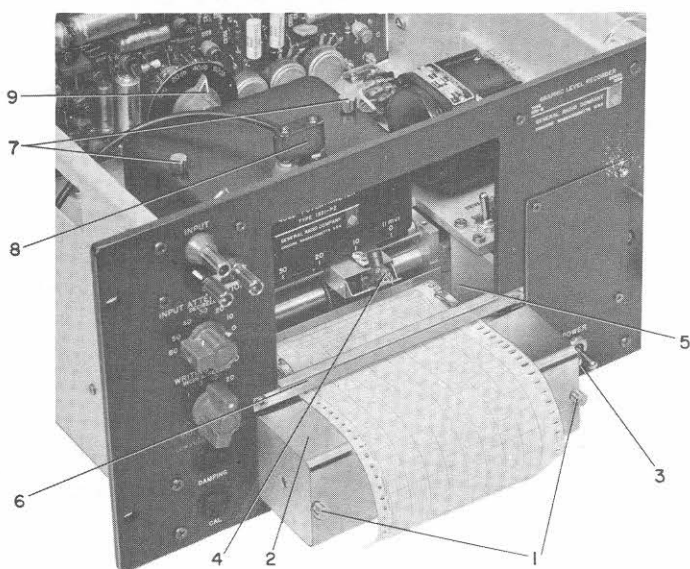
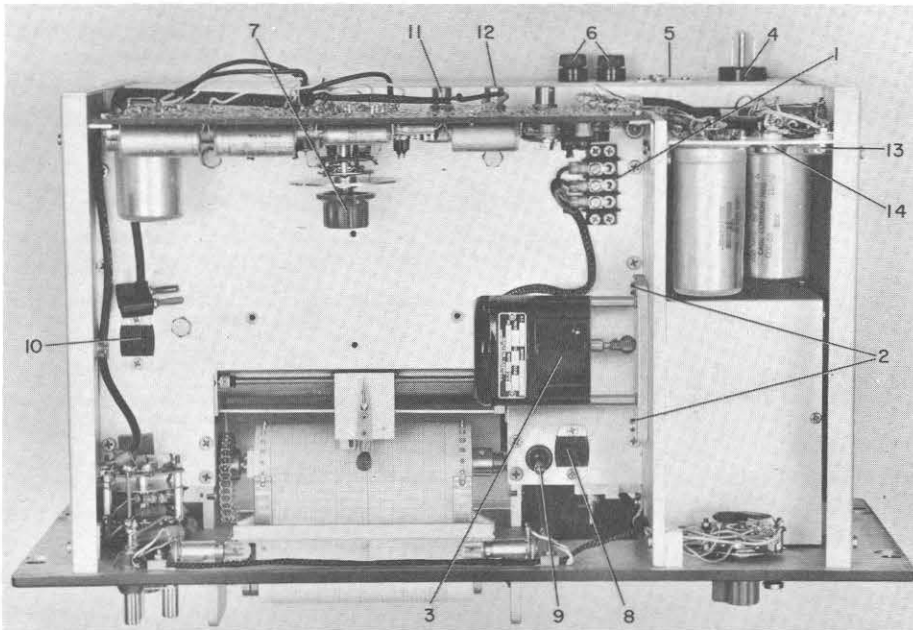

Figure 2.1. Front oblique view of recorder.
Figure 2.2. Top view of recorder
2.1.2 PAPER LOADING. (Refer to Figure 2.1). To load the recorder with paper, proceed as follows:
a. Remove the two thumb screws (1, Figure 2.1), and remove the paper cover (2).
b. Pull out the spring-loaded paper knob (3), and insert the roll of paper, with the loose end at the bottom, facing in toward the recorder. Press the right-hand paper hub to force the paper roll against the shoulder of the left-hand paper hub.
c. Grasp the pen (4) and swing it up, away from the drum.
f. Attach the paper cover (2) and fasten it with the two thumbscrews.
g. Move the paper along by turning the MANUAL SET knob, guiding the edge under the pen (4) and fingers
(5). The paper should go over the top of the paper cover and under the tear gate (6). It may be necessary to push down slightly on the paper cover.
All potentiometers can be installed without removal of the instrument from its case. When changing potentiometers, remove the unit to be replaced as follows: Remove the input plug (8, Figure 2.1) and loosen the captive thumbscrews (7) enough to free the potentiometer. Then remove the potentiometer by withdrawing it through the opening in the front panel. On linear potentiometers, a multipoint connector on the left-hand side must be unplugged before the potentiometer can be removed.
a. Set the potentiometer selector switch (9) to the position corresponding to the potentiometer being installed. The pins at the rear of the potentiometer case are guide pins that clear the selector switch only if it is set properly.
b. Move the input plug and cable out of the way, and insert the potentiometer through the panel opening. Two locating pins on the bottom of the potentiometer and mating holes in the shelf assure proper seating of the unit. When the potentiometer is in place (see Figure 2.1), tighten the thumbscrews (7) and connect the input plug (8). With a linear potentiometer, connect the multipoint plug in the mating socket (10, Figure 2.2).
c. Loosen the three screws holding the motor leads to the terminal strip (1, Figure 2.2), and slip the lugs out.
d. Remove the two motor-mounting screws and lock washers (2).
e. Remove the motor (3).
2.1.6 **POWER CORD.** Connect the power cord to the three-prong connector at the rear of the recorder (4, Figure 2.2). A small nameplate (5) to the right of this connector indicates the voltage and frequency for which the recorder is wired. A good ground connection should be made to the third conductor of the power cable to prevent 60-cycle pickup.
*On the Type 1564 Sound and Vibration Analyzer, the 1900-A Wave Analyzer and on recent models of the Type 1304-B Beat-Frequency Audio Generator, the frequency dial can be rotated through 360°. With these instruments, it is desirable to remove the Drive-Unit Microswitches so that the frequency dial can sweep through the entire 360°. To cut out the Microswitches, snap the toggle switch (9, Figure 2.2) toward the rear of the instrument.*